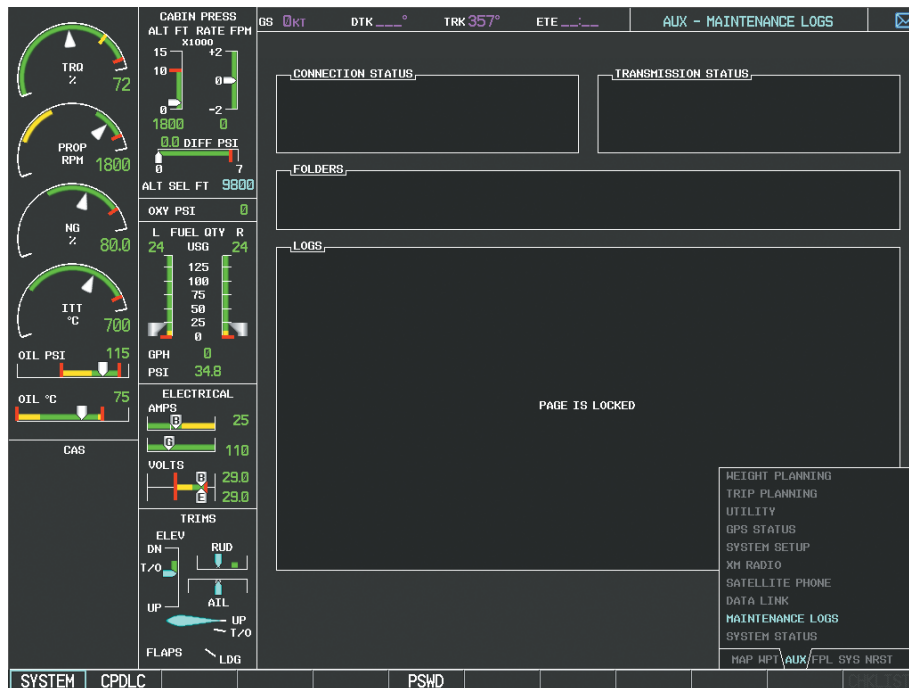

Figure 8-120 Maintenance Logs Page
- 2) Turn the small **FMS** Knob to select 'MAINTENANCE LOG', as seen in Figure 8-120. The AUX-MAINTENANCE LOGS Page is now displayed.